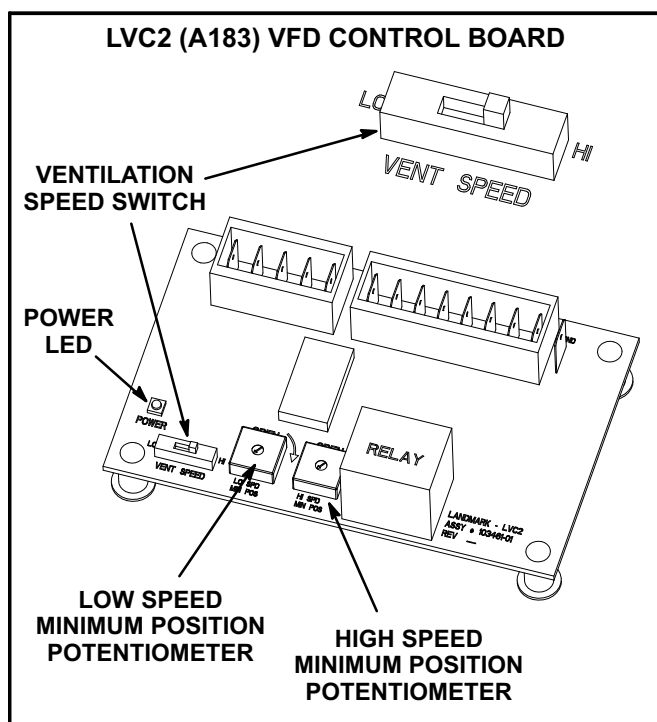

FIGURE 20
To save energy during ventilation, the blower speed can be set to low. This is accomplished by changing the ventilation speed switch on the VFD control board to "LO". See figure 20.
To maintain required minimum ventilation air volumes when the unit is in the occupied mode, two minimum damper positions must be set. A high and a low speed potentiometer are provided on the VFD control board to adjust minimum damper position. See figure 20.
- 5- Check the power LED on the board. See figure 20.